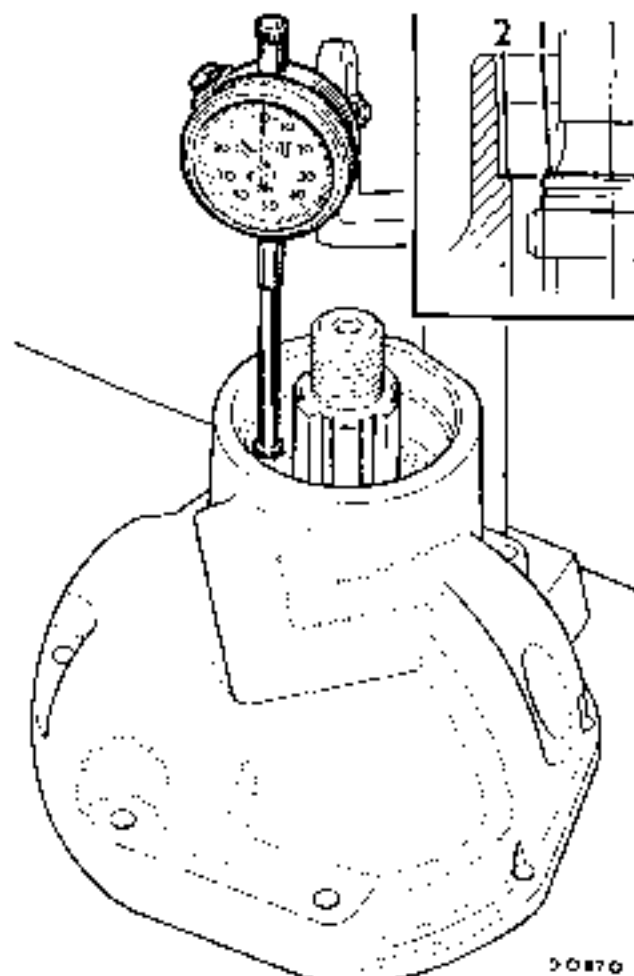

Fig. Fc 12
- a. Using dial gauge 18G 191, take a reading from the rear face of the selective washer (Fig. Fc 12).